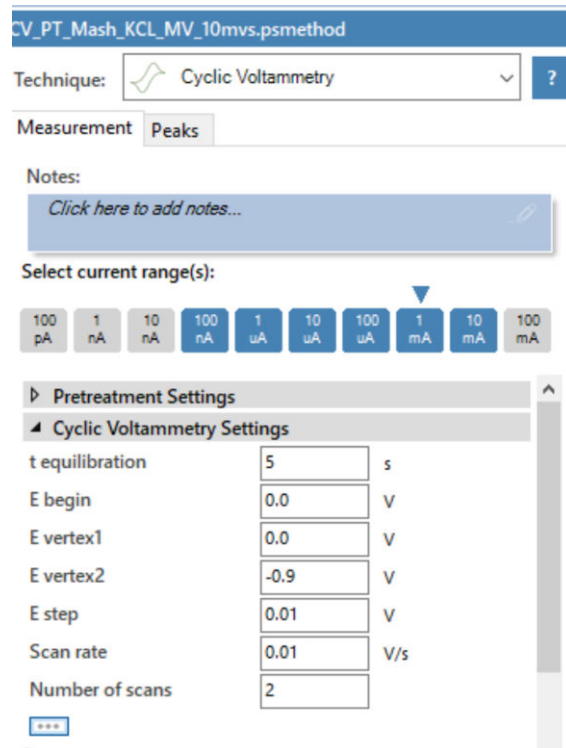

Figure 5: PSTRace CV settings
In this application note, the oxidation and reduction of methyl viologen should be triggered, so Cyclic Voltammetry (CV) is used as a technique. You can set the parameters according to Figure 5 or load the PSmeth file "*CV_PT_Mash_KCL_MV_10mvs.psmethod*". You can download an example method file at Palmsens.com/spectro and load it by choosing in the top menu *Method – Load*. As an alternative, you can set the parameters manually using Figure 5.